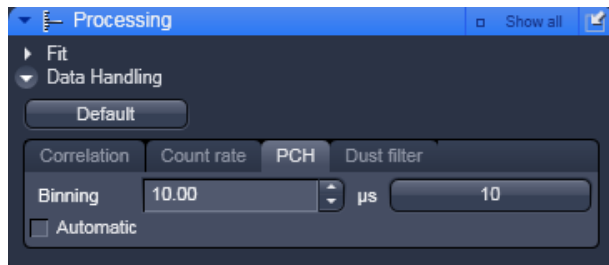

Fig. 55 PCH panel
- Click on the **PCH** register to open the **PCH** panel (Fig. 55). Click any other register to leave the panel.